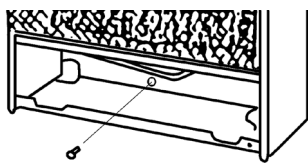
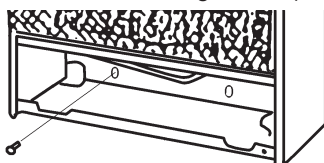

Figure 11C
Figure 11D
8. Tighten the screw until heater is firmly secured to wall. Do not over-tighten spacer onto the wall. (For MD2TPA see Figure 11C), (For MD3TPA, MD3TPA-BB, MD5TPA, and MD5TPA-BB see Figure 11D)